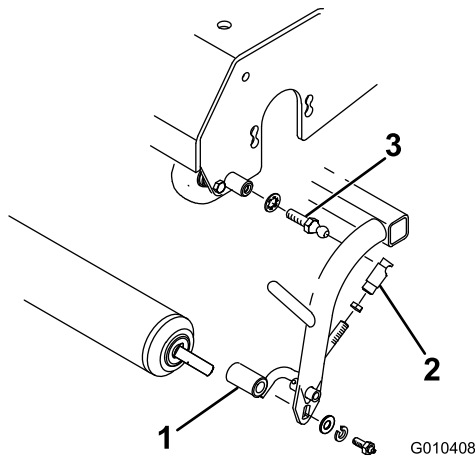

Figure 7
4. When mounting the Tri-Roller Kit to the Greensmaster 3050, 3100 or 3150 traction unit, use the small diameter ball stud and washer on each end of the tri-roller (Figure 7). Adjust the links so that they are forward as far as they will go.